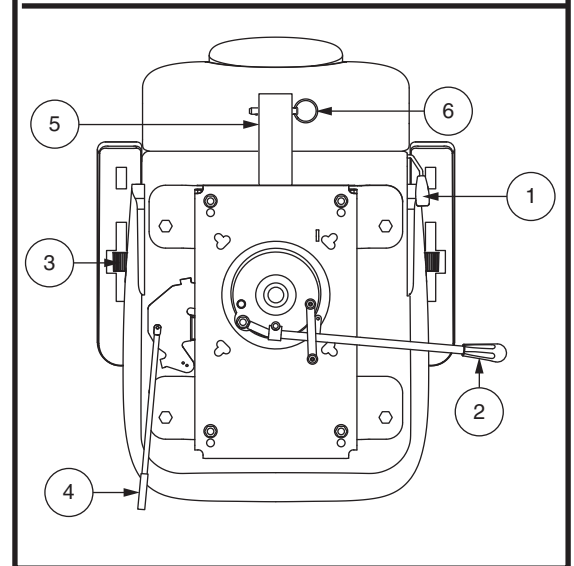

Figure 15. Seat Adjustments
To adjust your scooter's reclining seat, you can adjust the seatback angle with the seatback adjustment lever. See figure 15.
1. Pull upward on the seat rotation lever to disengage the seat. **See figure 15.**
Armrest angle of your scooter can be adjusted upward or downward by turning the adjustment dial. **See figure 15.**
1. Move the seat sliding lever located at the lower left side of the seat outward. **See figure 15.**
The rear-mounted accessory bracket allows you to attach a personal accessory such as a basket, walker holder, or oxygen tank to the back of your scooter. Utilize the detent pin to securely mount your item to the accessory bracket. **See figure 15.** See your authorized Provider for details.